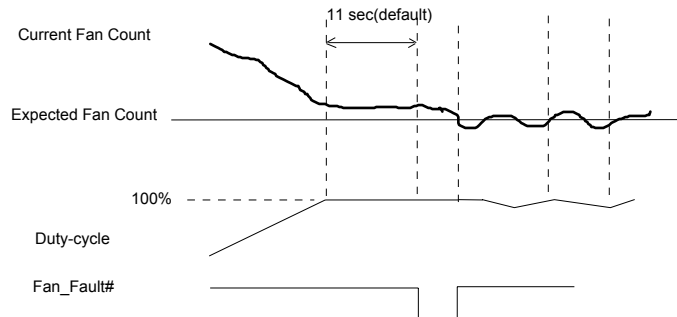

Fig 7-11
(1). When PWM_Duty reaches 0xFF, the fan speed count can't reach the fan expected count in time. (Figure 7-11)